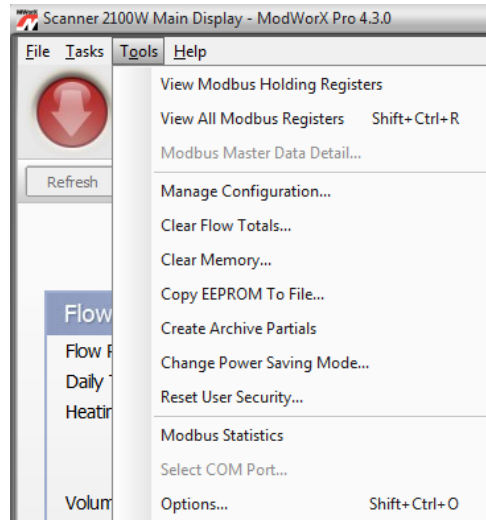

Figure 14.3
- Using the task bar at the top of the Main Display screen, click on the **Tools** button and choose **Options** from the dropdown menu (Figure 14.3).